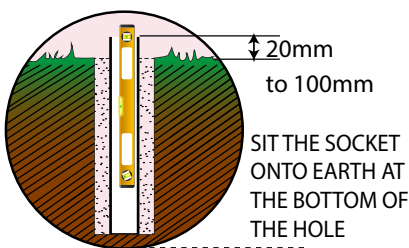

Fig 1a,
- 2, For permanent installation, excavate a foundation, (see table for dimensions). Concrete the socket into place, use a level to check the socket is vertical and plumb sitting on the soil at the bottom of the hole and plumb checking at intervals as you infill the hole. **DO NOT SIT THE POLE ON CONCRETE.** Make sure there is minimum of 20mm and maximum if 100mm of socket left above ground. (see fig1a)